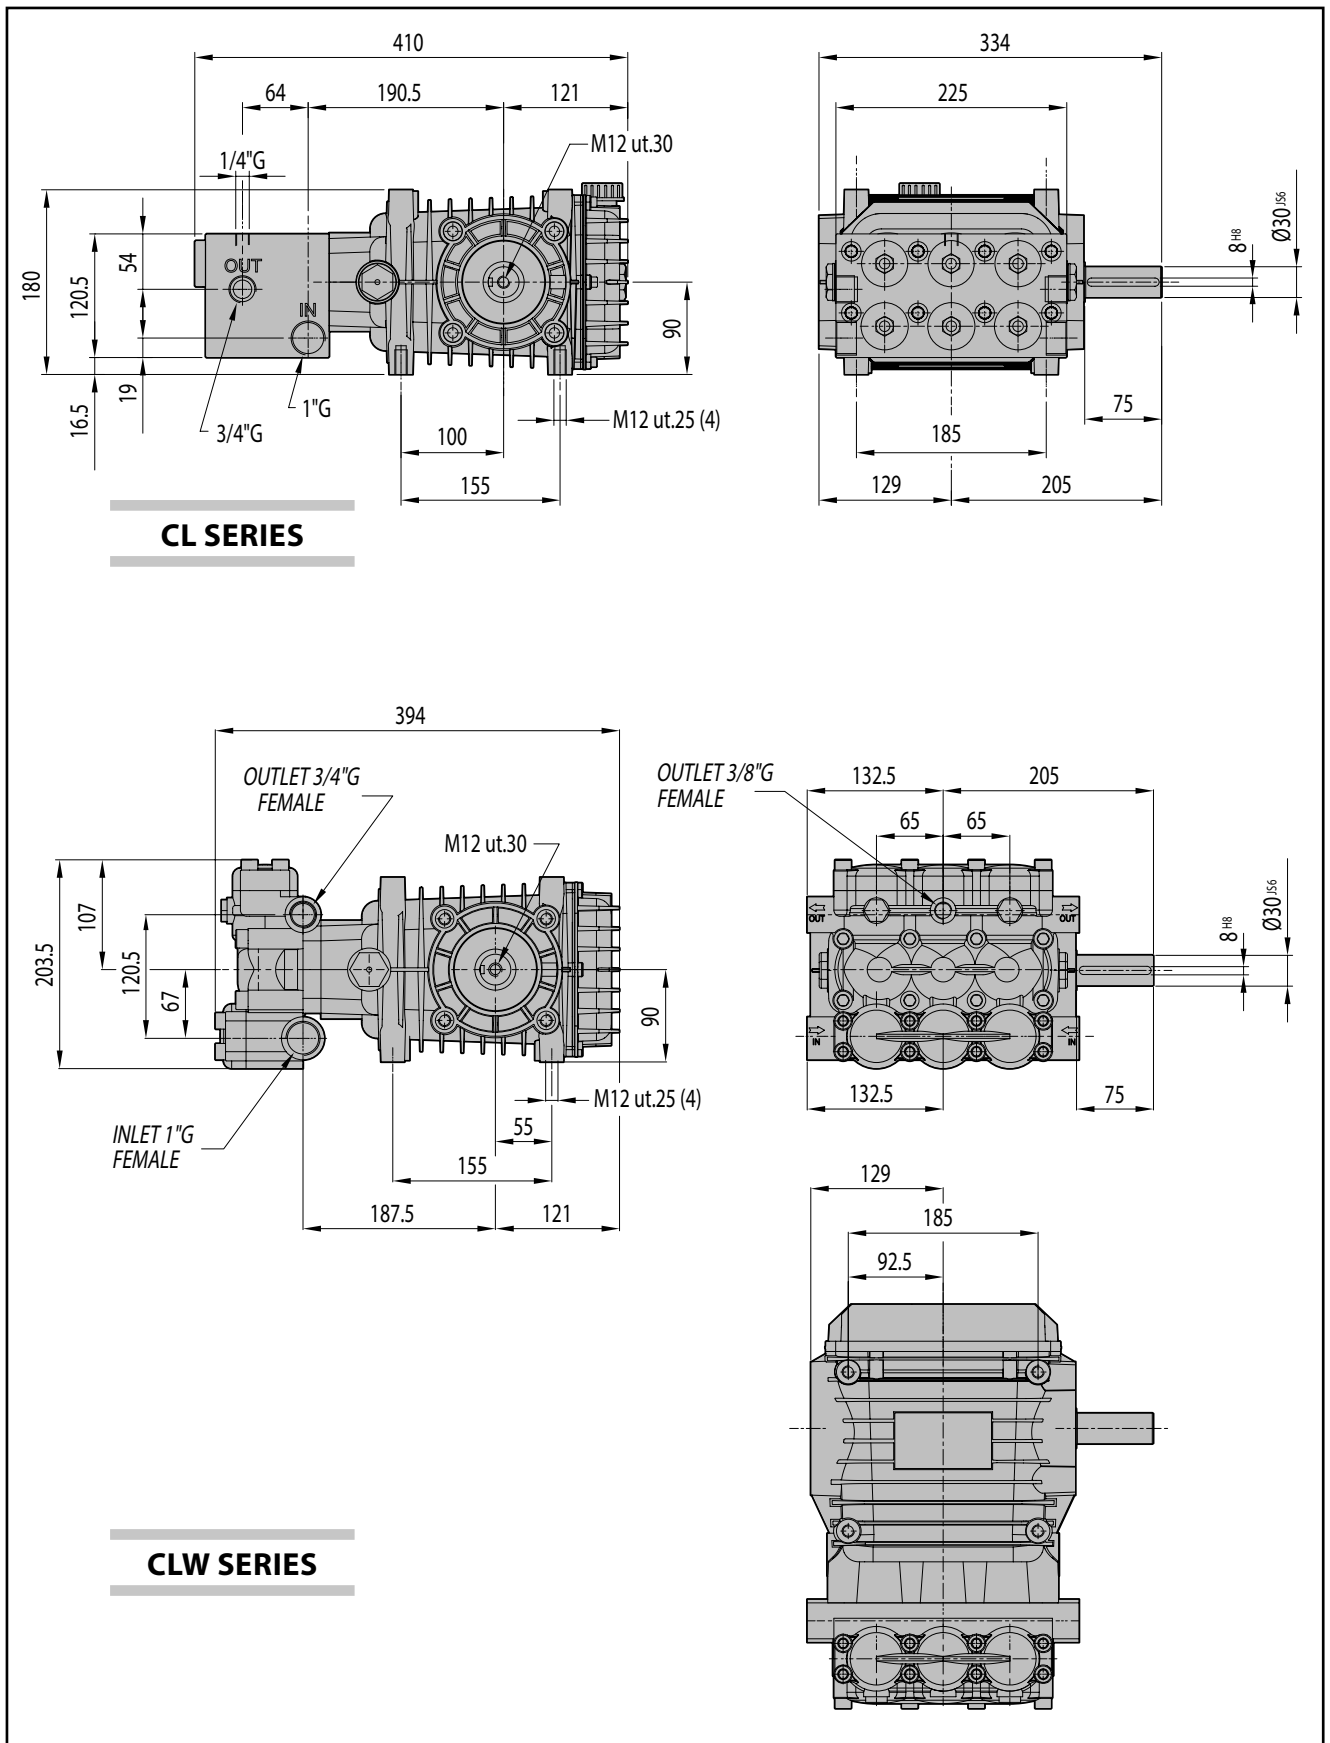

Fig. 1
- The pump must be stably fastened. The supporting surface must be flat and strong enough to avoid any misalignment between the pump and the motor and any vibrations during operation. To fasten the pump, use the four supporting studs in the pump crankcase. For sizes refer to Fig. 1.
For the main dimensions, refer to Fig. 1.